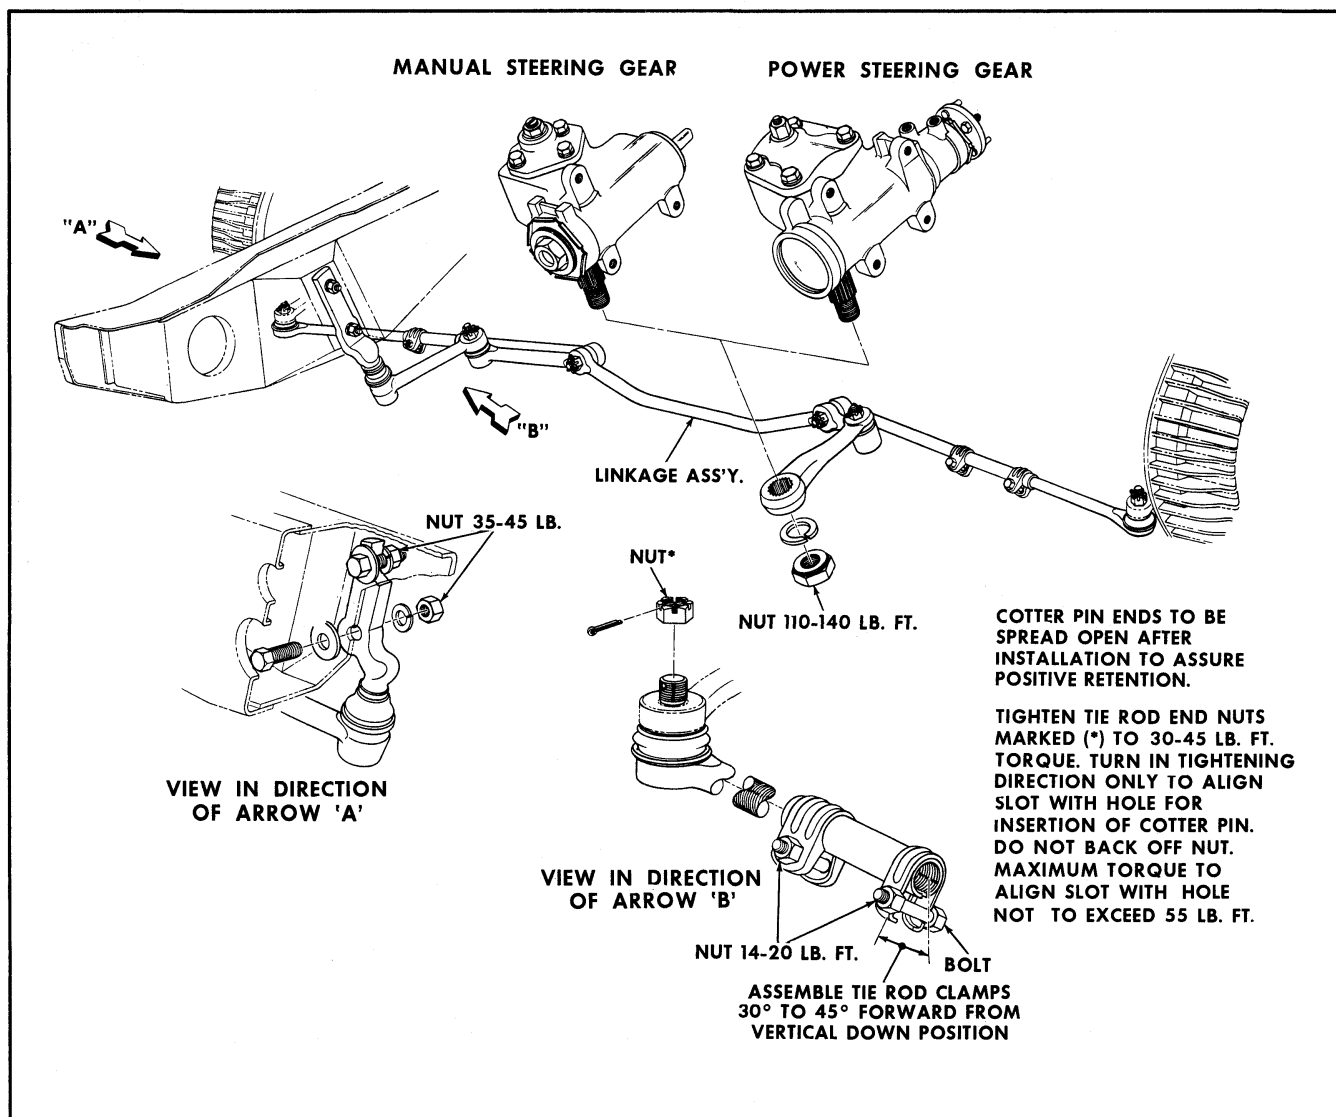

Fig. 9-4 Steering Linkage
1. Disconnect steering connecting rod from pitman arm (Fig. 9-4).